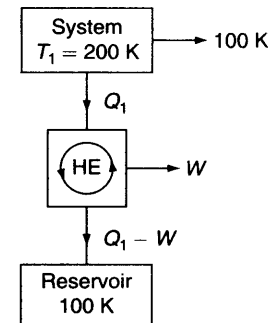

Fig. Ex. 7.6
**Solution** Heat removed from the system (Fig. Ex.7.6)